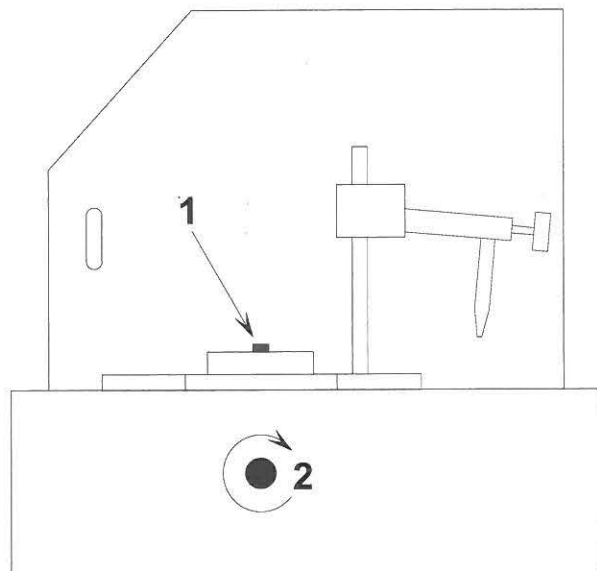

Figure 4.2
Unscrew the electrode clamping screw (see ② of the figure 4.2), the released electrode should lift some millimetres. Take out the electrode, simply by pulling upwards with fingers.